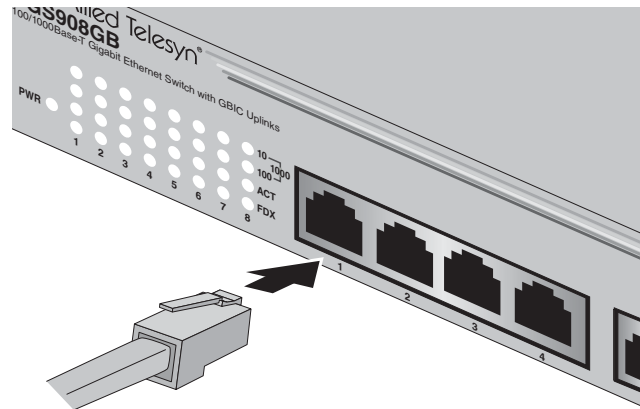

Figure 7 Connecting the Twisted Pair Data Cables
6. Connect the twisted pair data cables to the RJ-45 ports on the switch, as shown in Figure 7.